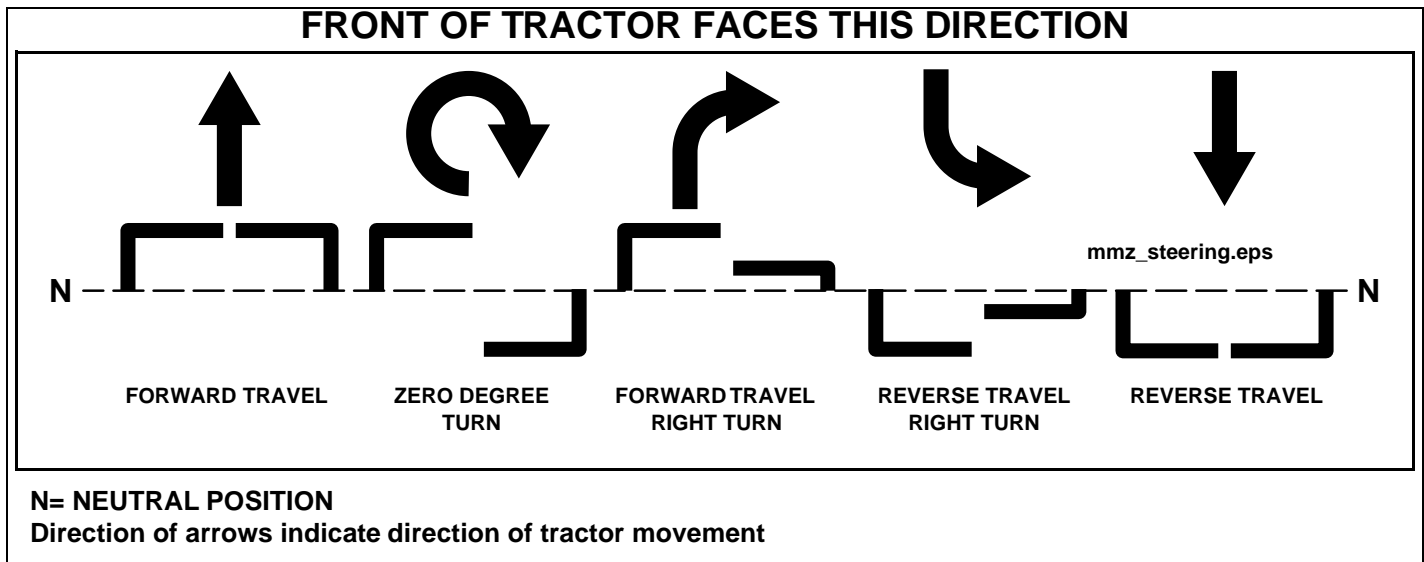

Figure 3-8
**To go forward,** push control levers forward an equal distance (Figure 3-8).
**To go in reverse,** pull control levers rearward an equal distance (Figure 3-8).
**To turn left,** move the right control lever farther forward from neutral than the left control lever.(Figure 3-8)
**To turn right,** move the left control lever farther forward from neutral than the right control lever. (Figure 3-8)
**“0” degree turn,** move one control lever forward and the other control lever back of neutral. This will allow the drive wheels to counter-rotate. (Figure 3-8)